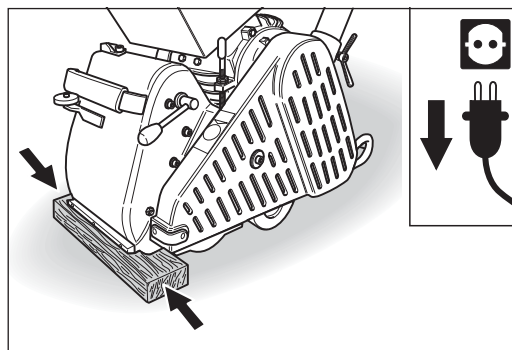

Fig. 31 **Secure the machine against sliding!**
- **Secure the machine against sliding! For example, place a flat piece of wood between the floor surface and machine housing (Fig. 31).**